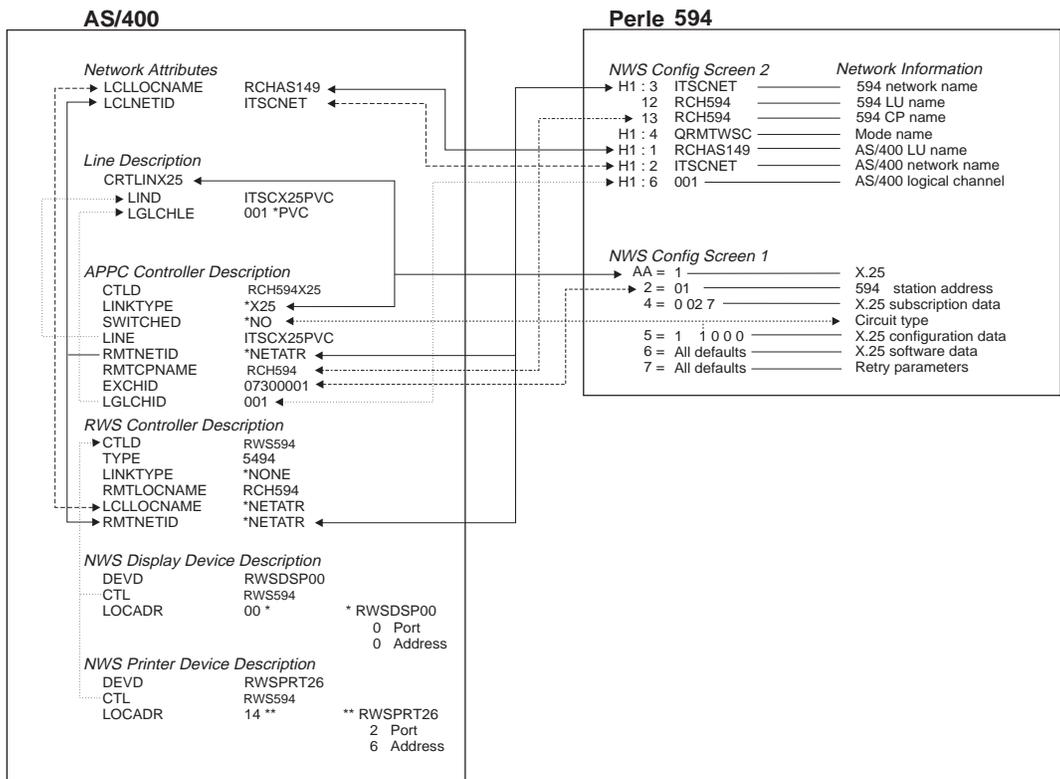

Fig. 8: X.25 Permanent configuration cross-reference
- Fig. 8: X.25 Permanent configuration cross-reference 5